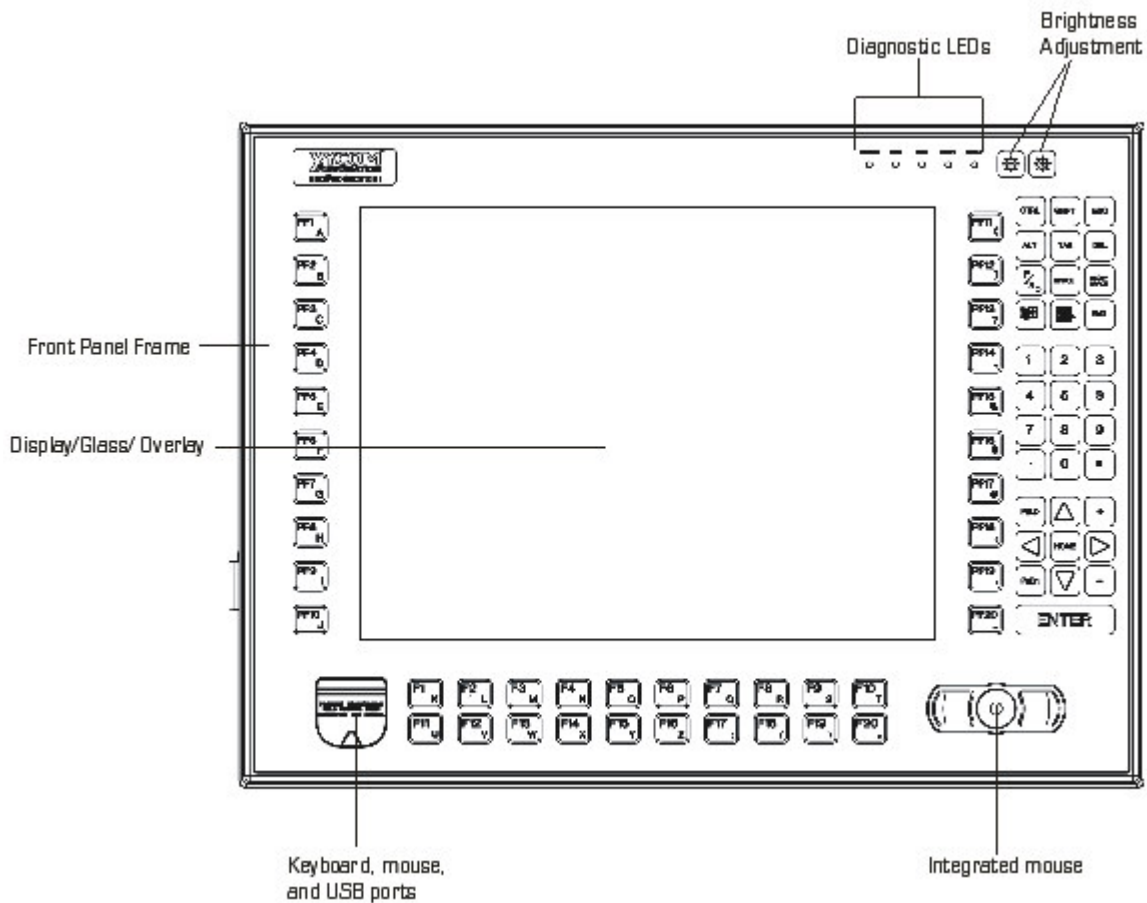

Figure 1-1. 5012KPM(T)& 5015KPM(T) Front Panel Controls
Figure 1-1 shows the front panel controls for the KPM(T) monitors. Table 1-1 outlines the front panel control functions.